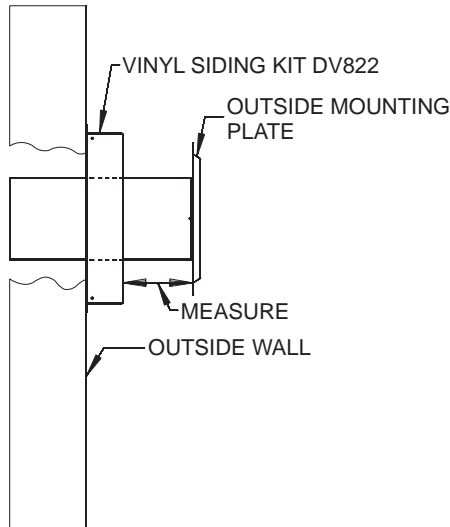

Figure 56
5. Attach the inlet tube to the outside mounting plate. Align tinnerman clips on the tabs of the air inlet tube to the holes on outside mounting plate, and fix with (2) #10 x 1/2" screws.
6. With the vinyl siding kit installed to wall (if necessary), insert the 6 5/8" (168mm) diameter tube with outside mounting plate attached through hole in wall. Connect to collar on fireplace or rigid vent system. Measure between wall or vent cap extension and outside mounting plate **Figures 56 and 57.**